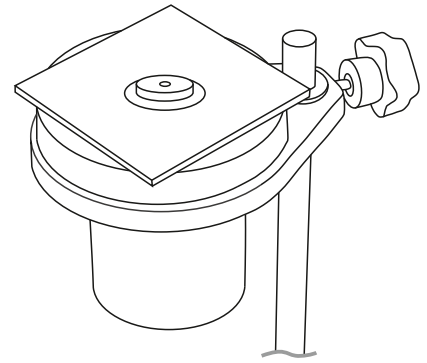

Figure 1
- 1 Place the cup into the stand^a and level the cup using the glass plate and bubble level supplied with the stand (Figure 1).